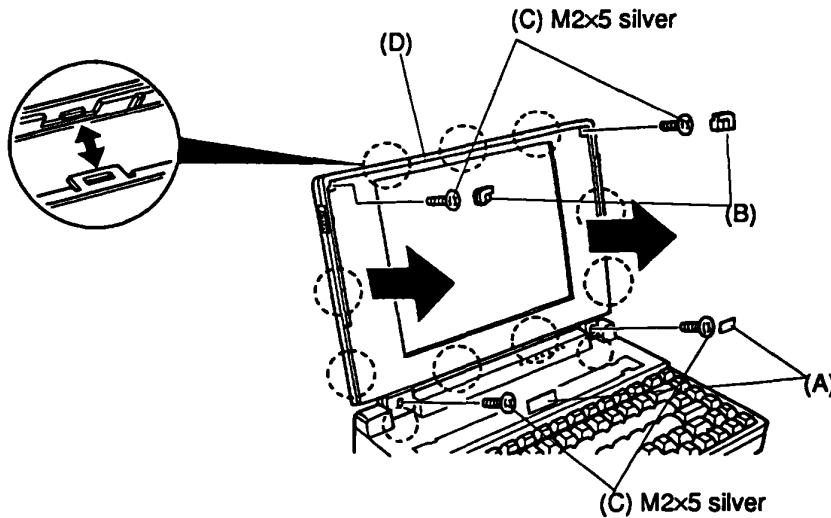

Figure 4-27 Removing the display mask screws
To remove the T4400SXC's display mask, follow these steps and refer to figures 4-27:
4. Remove the two stick-on labels (A) from the display supports and the two rubber cushions (B) from the top corners of the display panel to expose the four screws (C) securing the display mask (D). Refer to figure 4-27.
5. Remove the four screws (C) (M2×5 silver) securing the display mask to the display cover.